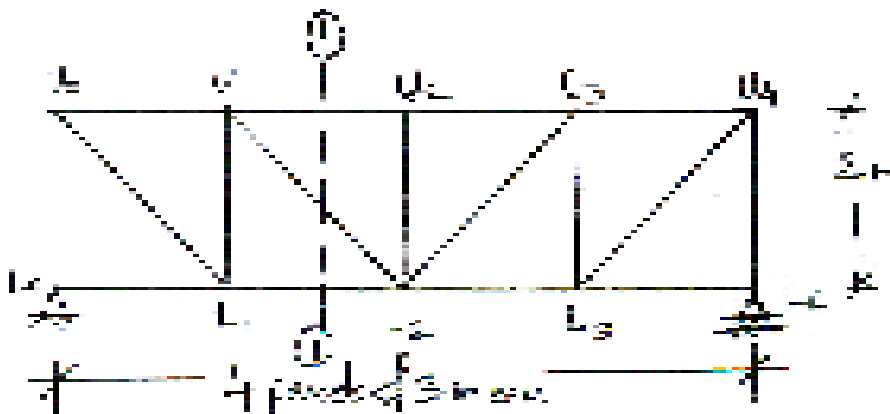

Fig. 18
- b) Plot the ILD for the members cutting the section 1-1. Find the axial force in these members if udl of 10 kN/m of span 35 m carries over the truss. Refer Fig. 18. 8